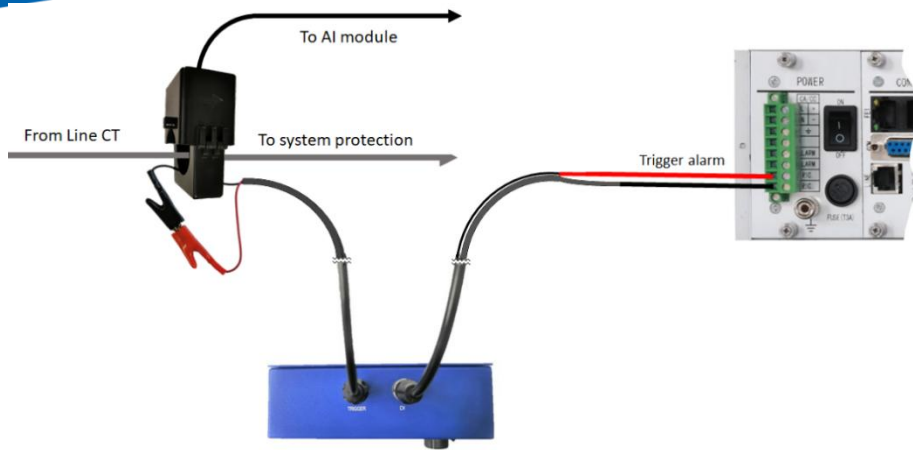

Figure 6.5 TSG-10 connections
- A) AI Module: Connect the system as shown in Figure 6.5. Connect the two crocodile clips on the Trigger cable together, having passed the cable through the interposing CT connected to the AI module. The DI lead is connected to the TRIG. output on the Power module.